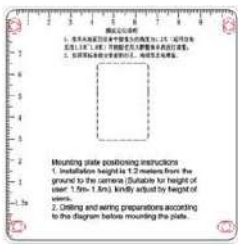

Figure 1
**2.1.1** Recommended installation height is 1.2m from the ground to the camera(Suitable for height of user: 1.5m-1.8m), kindly adjust by height of user; After the installation height is confirmed, the installation positioning template is affixed to the installation location, According to the positioning template identifies drilling and fix it, The red mark is the drilling position (Figure 1);